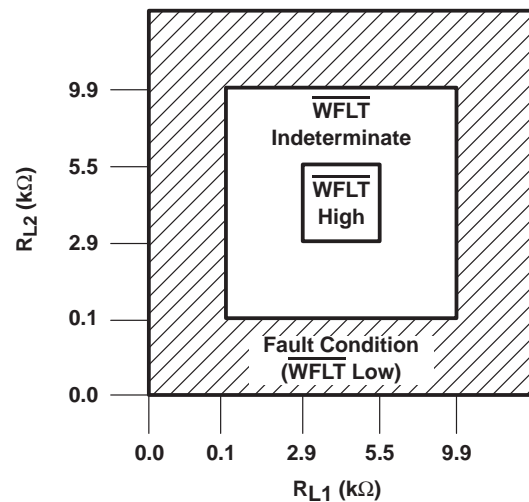

Figure 6. Wire-Fault Pin Test
- NOTES: 8. The wire-fault logic recognizes a load condition corresponding to greater than 9.9 k $\Omega$  to ground as an open-circuit fault, but it does not recognize a load condition less than 5.5 k $\Omega$  to ground as an open. The wire-fault logic recognizes a load condition corresponding to less than 100  $\Omega$  to ground as a short-circuit fault, but it does not recognize a load condition corresponding to greater than 2.9 k $\Omega$  to ground as a short. Figure 6 illustrates this with  $R_{L1}$  connected from PHOUTA to ground and  $R_{L2}$  connected from PHOUTB to ground.